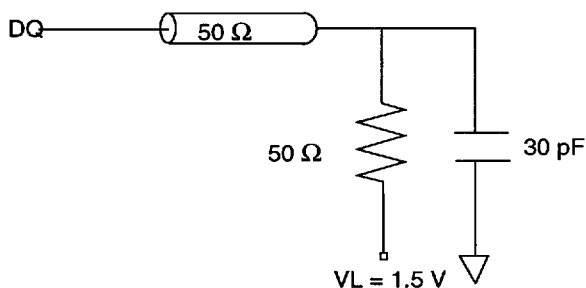

Fig. 1 Test Equivalent Load
1. See AC Test Loading figure 1 on page 11.